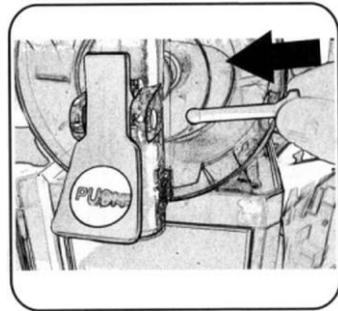

Fig. 42
6. Insert the handle fixing pin as shown in Fig. 42.